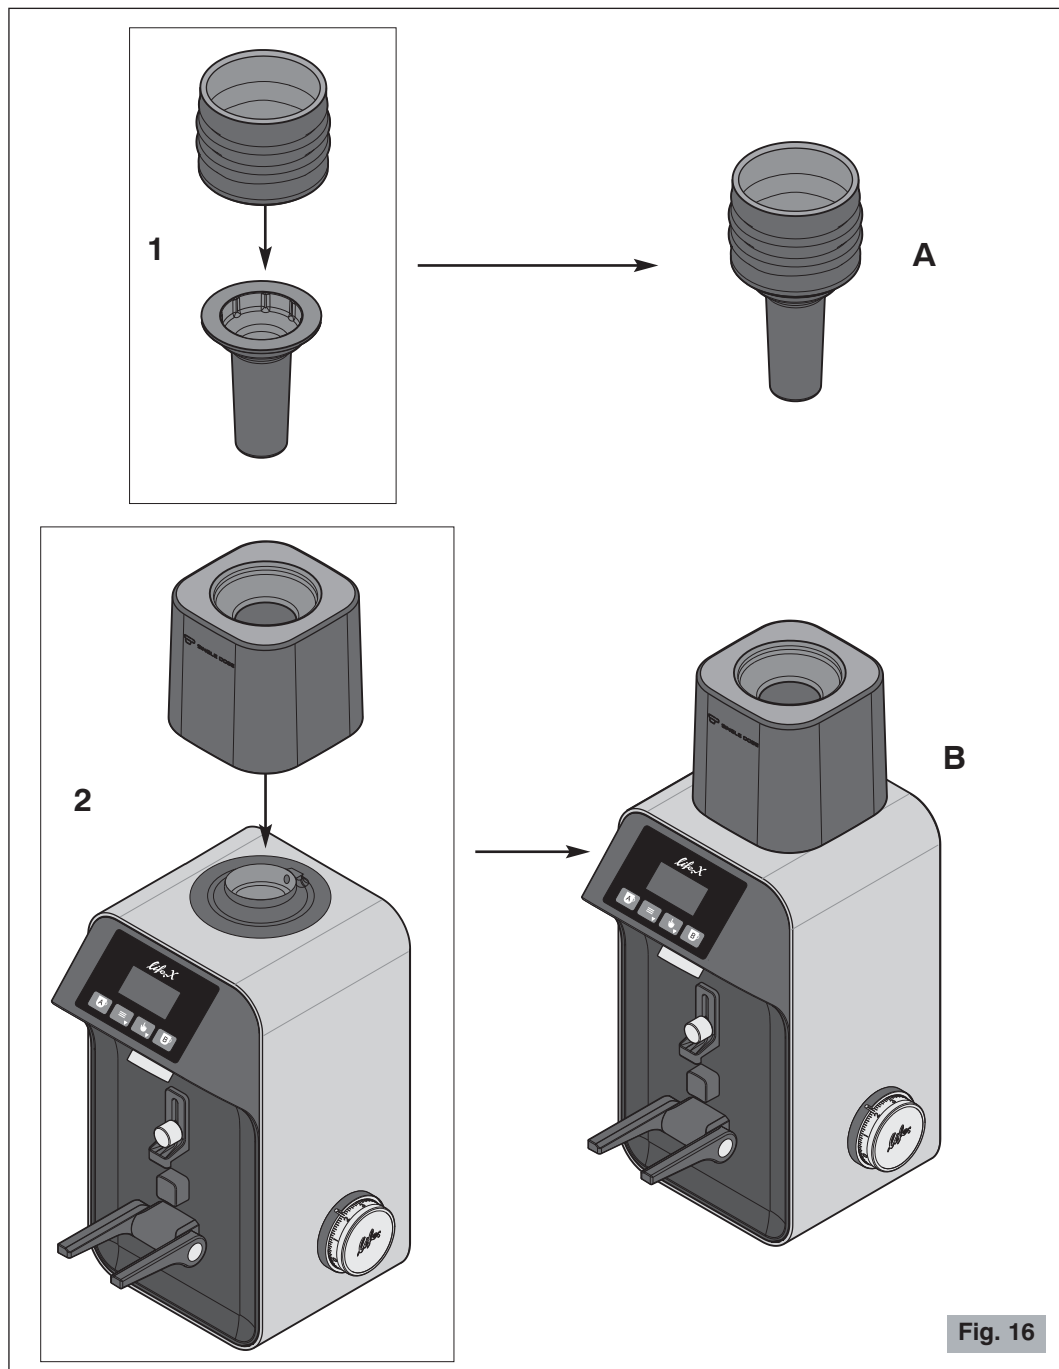

Fig. 16
5. Insert the bellows into the pusher (point 1 of Fig. 16).
6. Place the kit support in its seat (point 2 of Fig. 16).
- 4 Insert the bellows-pusher assembly (A Fig. 16) into the opening of the support, letting it rest on the coffee beans (Fig. 16a).
**Never** operate without the hopper fixed by the appropriate screw (6a, Detail A Fig. 3) or without having positioned the support of the single dosing kit (point 2 Fig. 16).